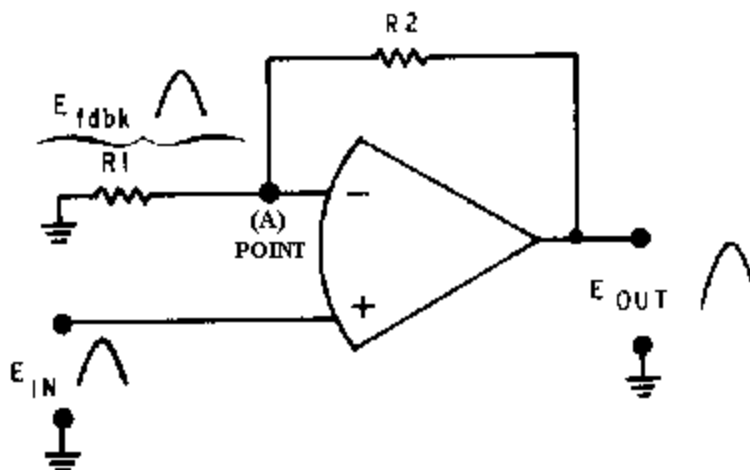

Figure 3-16.—Noninverting configuration.
Figure 3-16 shows a noninverting configuration using an operational amplifier. The input signal ( $E_{in}$ ) is applied directly to the noninverting (+) input of the operational amplifier. Feedback is provided by
- Q-26. *In a circuit such as that shown in figure 3-16, if R1 has a value of 50 ohms and R2 has a value of 250 ohms and the input signal has a value of +10 millivolts, what is the value of the output signal?*